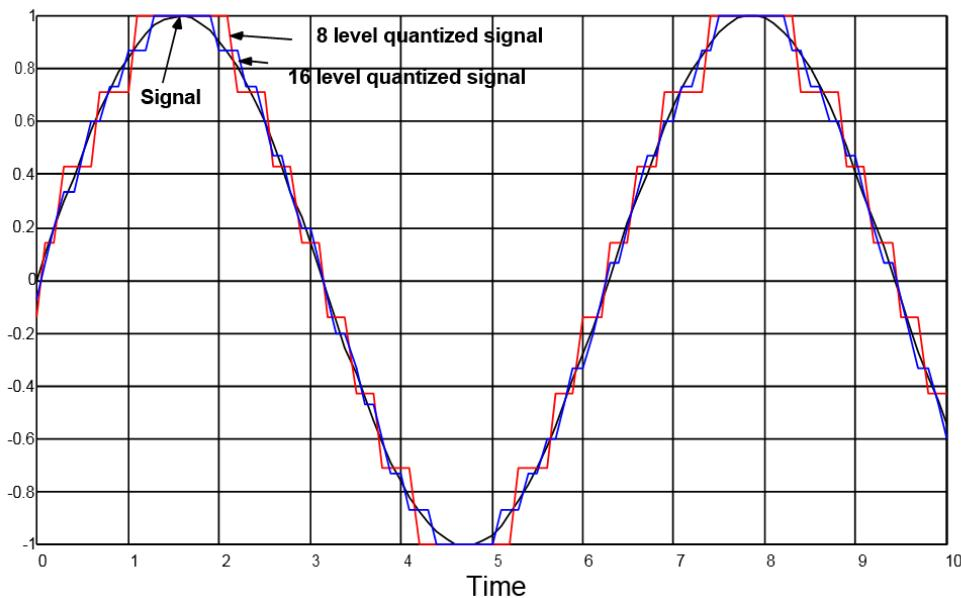

Figure 2.2 Sinusoidal signal before and after quantization.
We arbitrarily choose the duration of the signal to be 10s. The resulting SQNRs are 18.90 dB for the 8-level PCM and 25.13 dB for 16-level PCM, compare these values with the results that you get from your simulation. The plots are shown in figure 2.2.
11. Plot the input signal and quantized signal as in Figure 2.2. Use black solid line for signal, red solid line for 8 levels quantized and blue solid line for 16 level quantized signals. Use ‘figure’ function for multiple figures (you have to plot another figure in step 12).